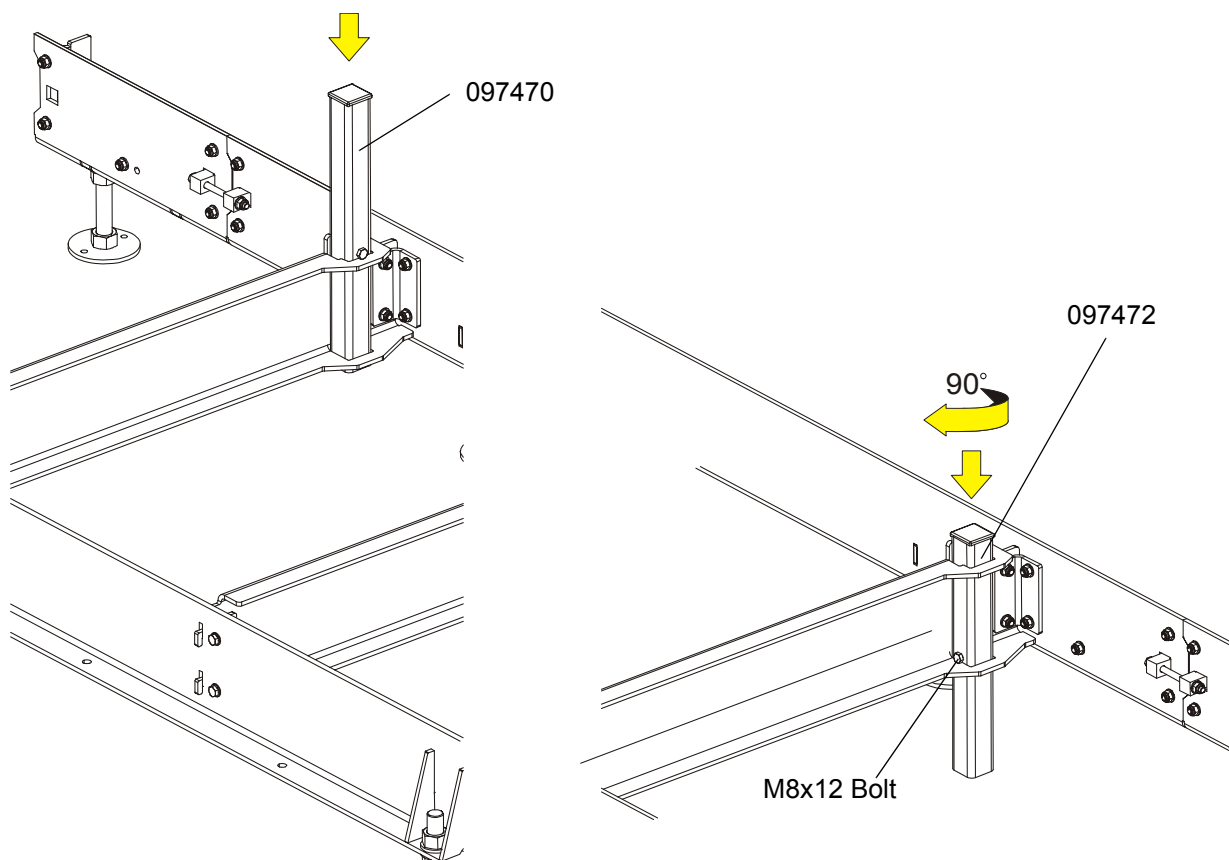

FIG. 2-8
- Each bed segment has got two side supports (Part No 097470 – long and 097472 – short). Install the log side supports as shown on the Figure 2-8. Each side support can be adjusted in two positions, depends of the cutting height.
See Figure 2-8.